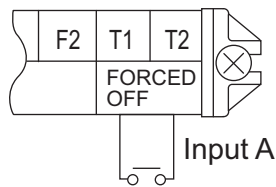

Fig. 30
### (1) Wire specifications and how to perform wiring (Refer to Fig. 30)